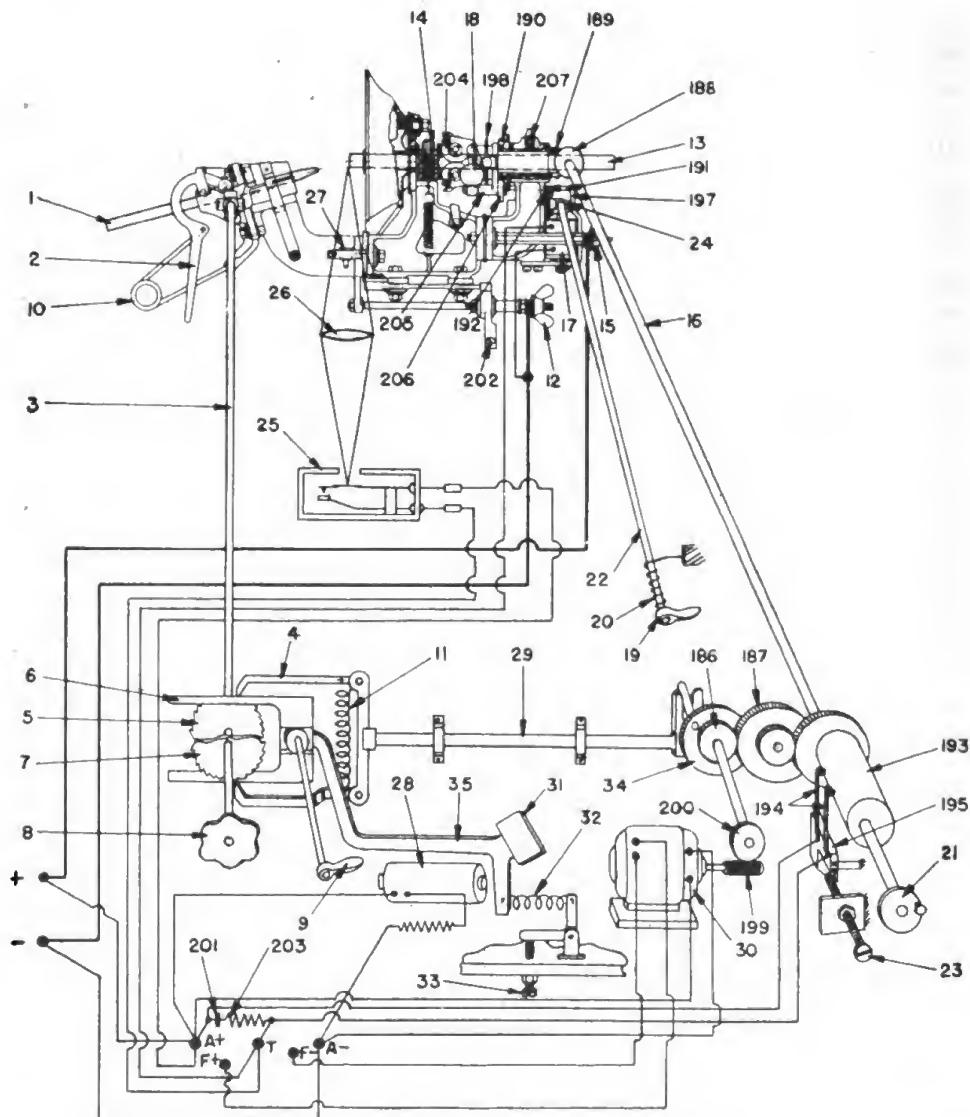
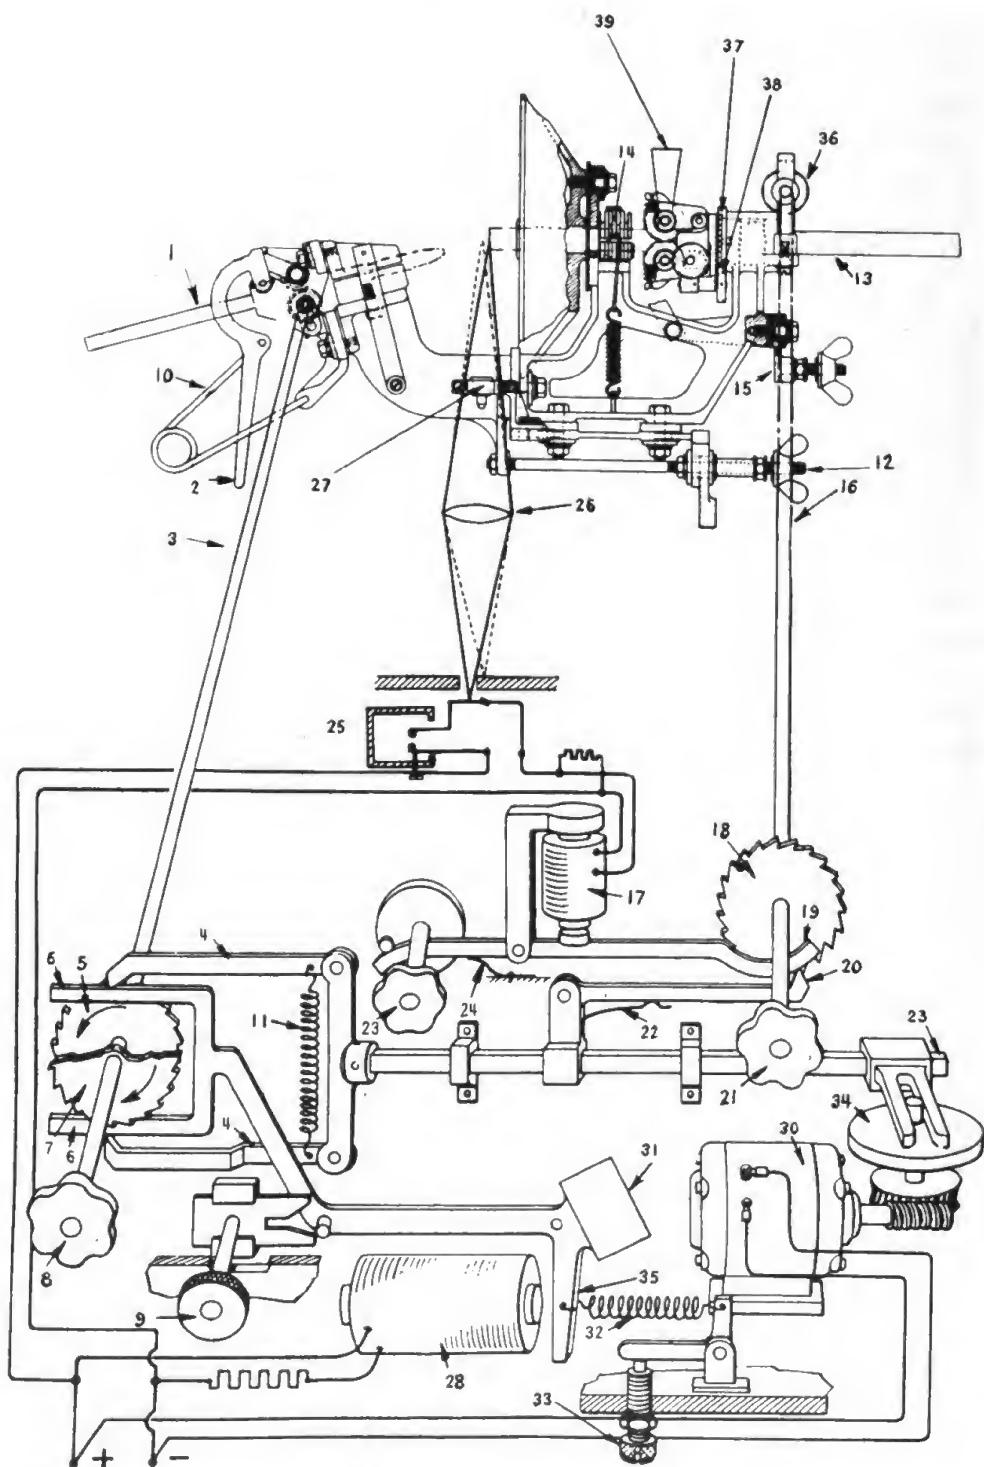

FIGURE 28.—Schematic diagram of the Sperry M1941 lamp and lamp control mechanism.
FIGURE 29.—Schematic diagram of the Sperry M1940 lamp and lamp control mechanism.
**Sperry searchlight.**—*Q.* Describe briefly the operation of the lamp control mechanism. *A.* The lamp control mechanism and lamp are shown in schematic form in figure 28.
(1) *Positive carbon feed system.*—The feed motor (30) drives, through a set of gears, the positive rod (16) which drives miter gear (188) and a driven miter gear. Miter gear (189) drives a yoke carrying with it a set of gears. This set of gears includes a ratchet and gear assembly (190) which, when prevented from rotating by a feed plunger (191), causes a planetary gear (206) to rotate, which in turn causes the feed rollers to rotate, thus feeding the positive carbon forward.
(2) *Negative carbon feed system.*—The negative carbon feed system operates as follows: The feed motor (30) drives through eccentric gear (186), which in turn causes the reciprocating feed member (29) and the feed pawls (4) to oscillate back and forth. One of the feed pawls (4) (depending upon the position of the negative feed control guard (6) drives the negative control rod (3) so as to feed the negative carbon forward. The other pawl (4) drives the control rod in the opposite direction so as to retract the negative carbon. The negative control rod (3) is connected to the feed rollers which position the negative carbon.
*Q.* What operates the positive feed plunger (191), figure 28? *A.* An electromagnet which may be energized from two sources: a cam operated switch (195) or thermostat (25).
*Q.* How does the thermostat function? *A.* It is a thin strip of two different metals welded into a single strip. When heated this strip will bend because the two metals have different rates of expansion. When rays of light from the positive crater are focused by the thermostat lens (26) on to the bimetallic strip, the strip bends and closes an electrical contact which in turn energizes the positive feed electromagnet.
*Q.* What is the function of the arc length control coil (28)? *A.* It acts as a magnet on armature (35), which in turn positions negative feed pawl guard (6), allowing ratchet (5) to retract the negative carbon when the arc voltage is less than 78 volts. Ratchet (7) is engaged when the voltage is greater than 78 volts. Thus it keeps the negative carbon positioned so as to maintain a constant arc length. It functions on the electrical principle that the arc voltage varies directly with the arc length.
*Q.* Describe briefly the operation of the lamp control mechanism. *A.* The control mechanism and lamp are shown in schematic form in figure 29.
(1) *Positive carbon feed system.*—The feed motor (30) drives an eccentric disk (34) causing the reciprocating feed member (29) and positive feed pawl (20) to move back and forth. Positive feed pawl (20) engages the teeth on positive feed ratchet (18), rotating it and the positive control rod (16) in a counterclockwise direction. Control rod (16) drives gear (36), causing a yoke carrying planetary gear (38) to rotate. Planetary gear (38), through a worm drive, causes the carbon feed rollers to rotate and feed the positive carbon forward.
(2) *Negative carbon feed system.*—The reciprocating feed member (29) and the feed pawls (4) oscillate back and forth. One of the feed pawls (4) (depending upon the position of the negative feed control guard (6)) drives the negative control rod (3) so as to feed